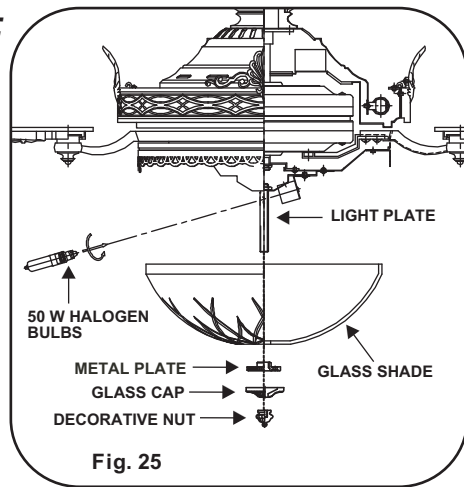

Fig. 25
1. Install 2x50W halogen (included) bulbs into bulb sockets. (Fig. 25)
2. Remove the metal plate, glass cap and decorative nut from the light plate. Raise the glass shade up against the light plate, Place the metal plate with rubber on the top over the stem and turn it clockwise until it locks up against the glass shade. Do not overtighten. (Fig. 25)
3. Raise the glass cap and decorative nut against the glass shade and secure it to the stem by turning the decorative nut clockwise until snug. Do not overtighten. (Fig. 25)